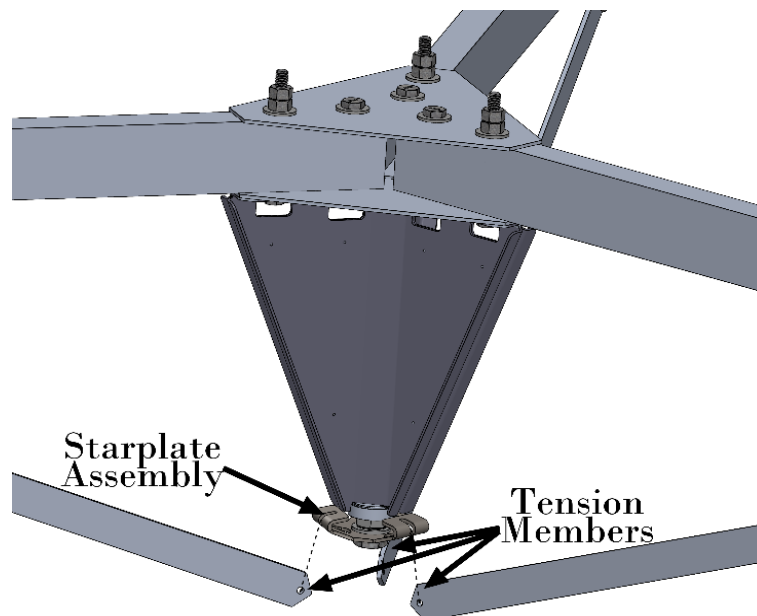
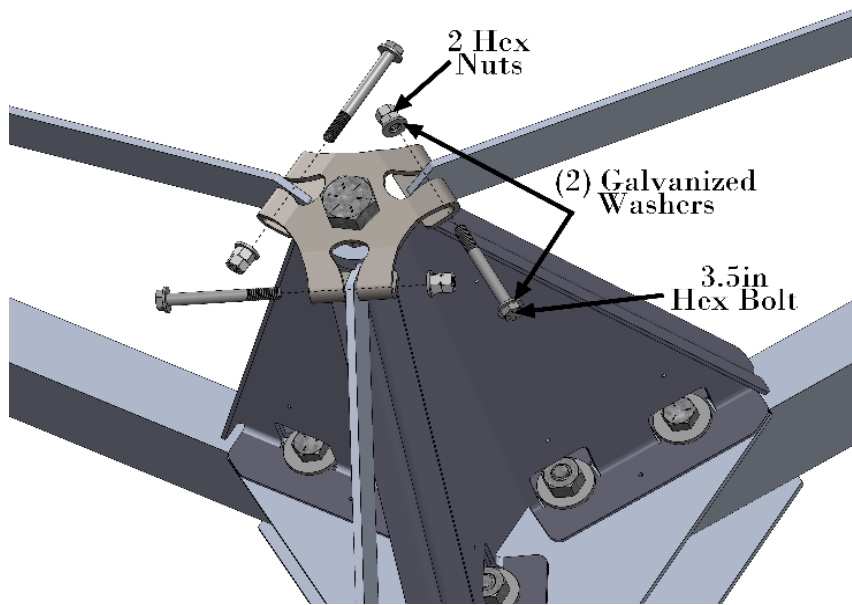

Figure 120 Tension member star plate assembly
Figure 121 Tension Member assembly
3. Remove the (3) tension members from the bottom of the Starplate assembly by removing (3) 3-1/2" bolts and (6) hex nuts as per Figure 120 and Figure 121.